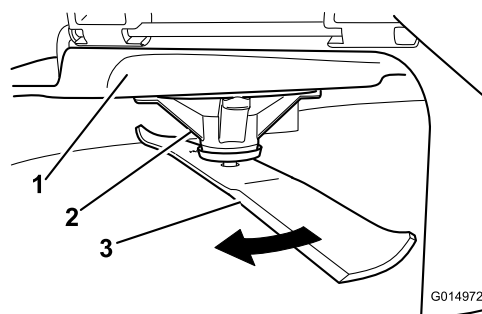

Figure 44
2. While wearing thickly padded gloves, or other adequate hand protection, slowly rotate the blade to be measured into a position that allows effective measurement of the distance between the cutting edge and the level surface the machine is on (Figure 44).